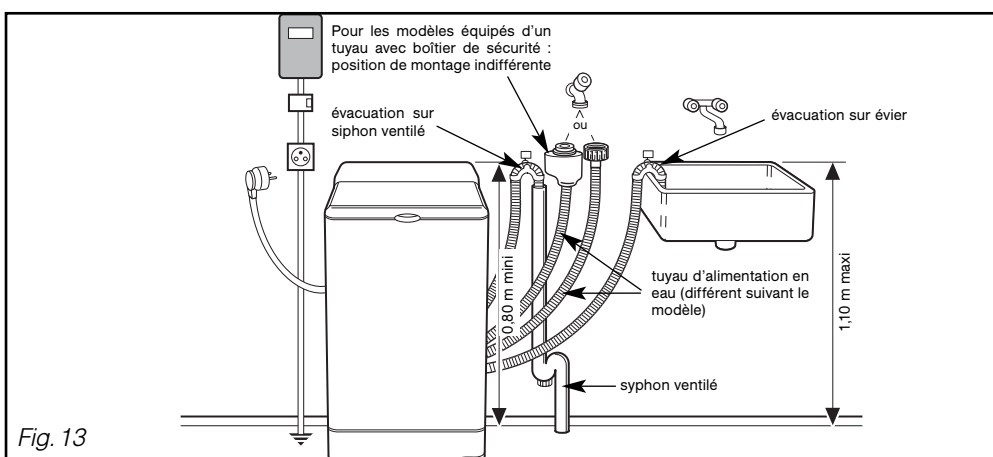

Fig. 13
• **Cold water supply (Fig. 13) :**
• **Electrical power supply (Fig. 13) :**
• **Discharge of waste water (Fig. 13) :**